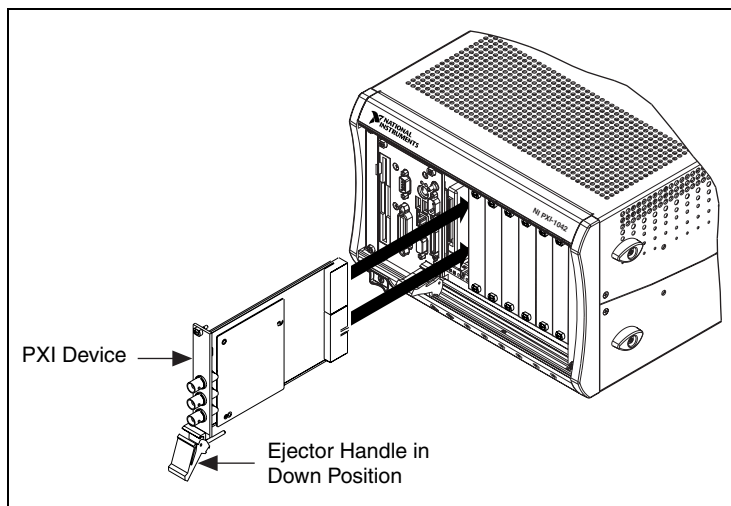

Figure 1. PXI Installation
To install the module, refer to Figure 1 and complete the following steps:
6. Ensure that the ejector handle is in the unlatched (downward) position, as shown in Figure 1.